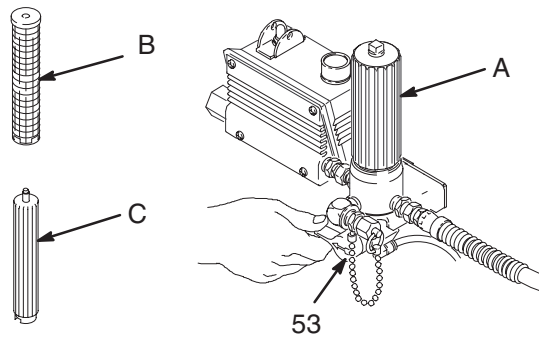

Fig. 5 Model 231326 shown
2. Remove the filter bowl (A) and screen (B); see instruction manual 307273, supplied. Install the bowl and support (C), without the screen, to flush. Clean the screen separately. See Fig. 5.